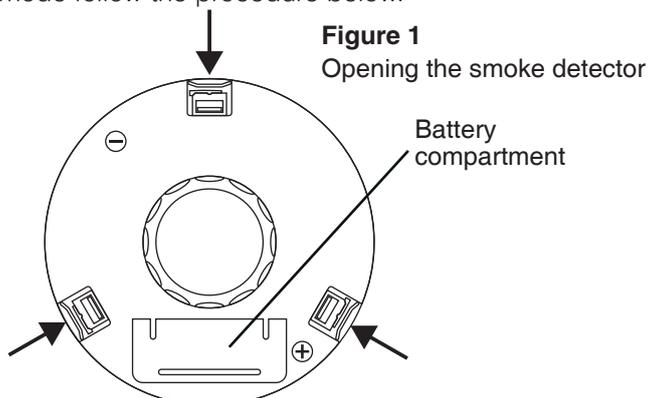

Figure 1
1. Unclip the base of the smoke detector at the three points shown on Figure 1.